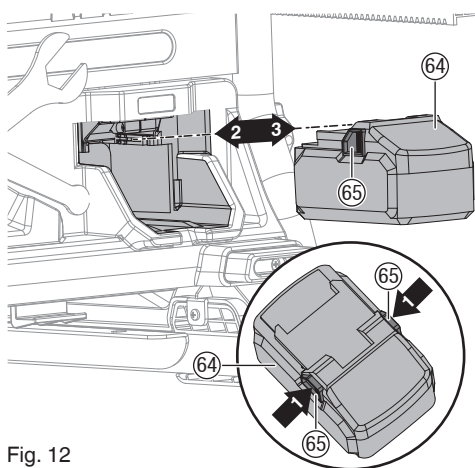

Fig. 12
### REMOVAL AND INSTALLATION METHOD OF BATTERY (Fig. 12) HOW TO INSTALL THE BATTERY
○ Align the battery (64) with the groove inside the tool and slip it into place. Always insert it all the way until it locks in place with a little click, If not, it may accidentally fall out of the tool, causing injury to you or someone around you (Fig. 12).
○ Withdraw battery (64) from the tool while pressing the latch (65) (2 pcs) of the battery (64) (Fig. 12).